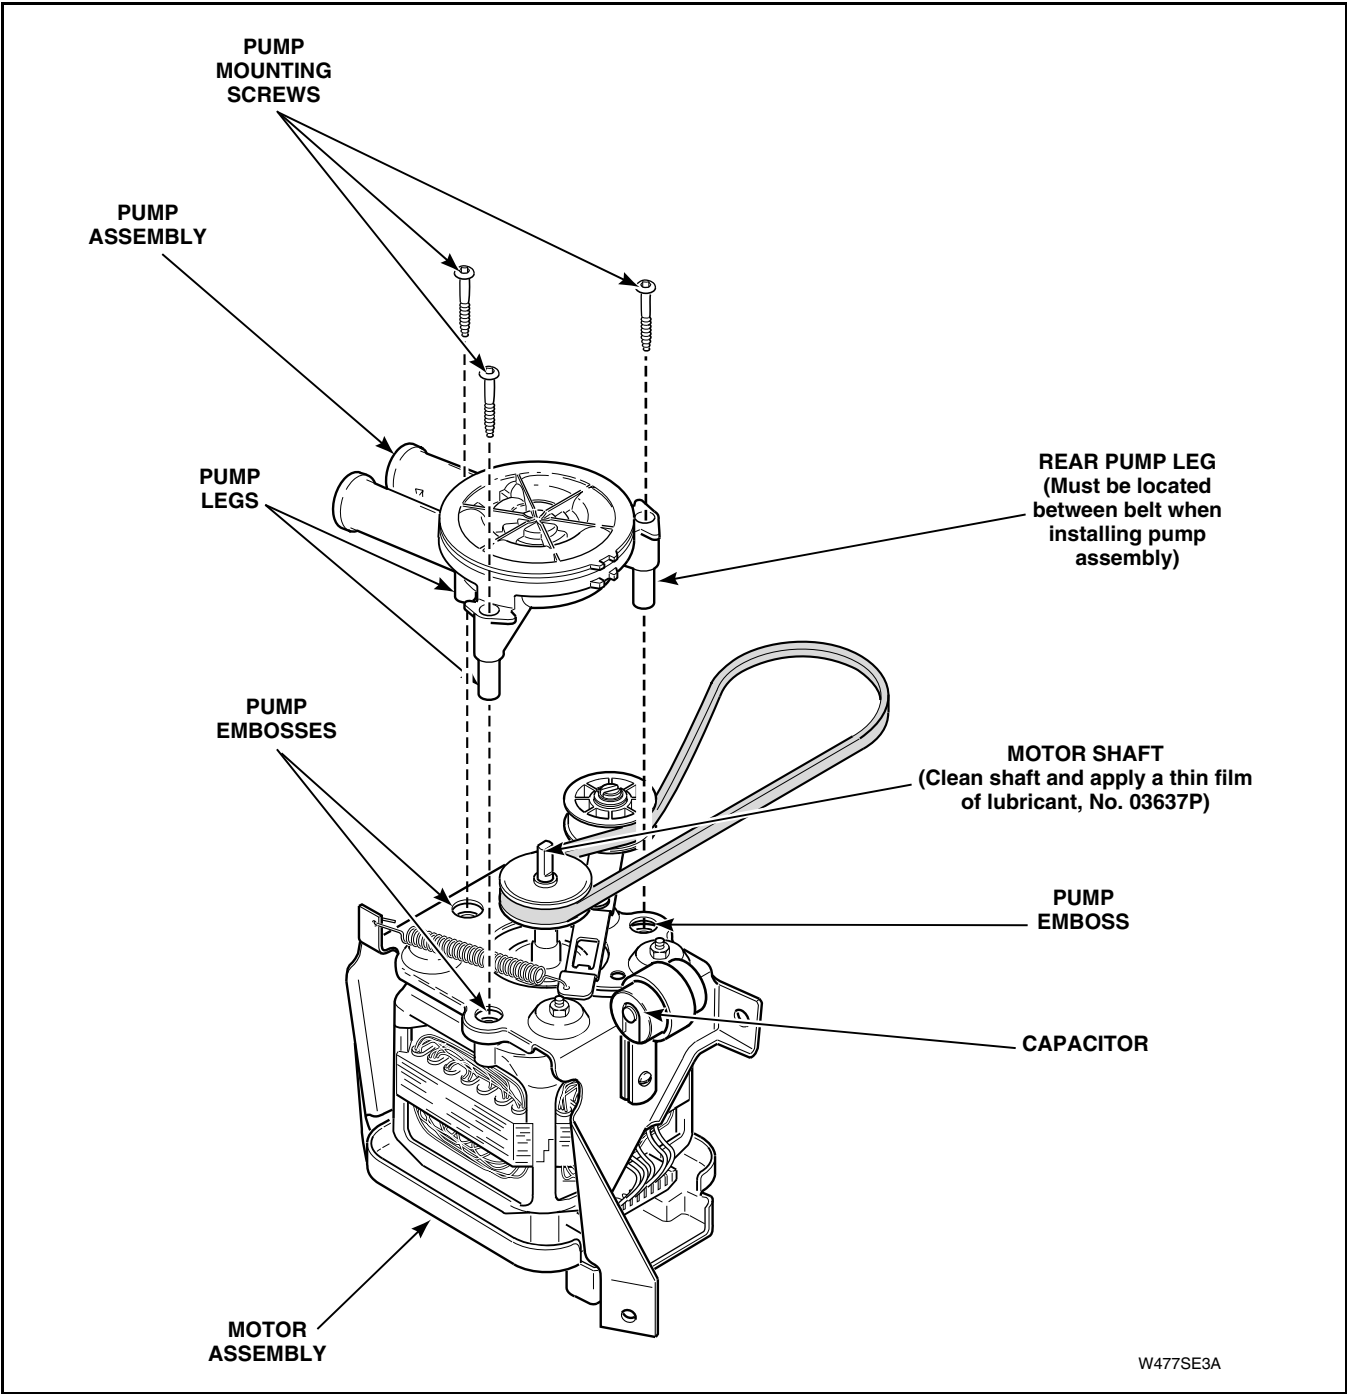

Figure 41
IMPORTANT: Carefully lay motor on its side. Observe belt configuration around rear pump leg. Belt **MUST** encircle rear pump leg when reassembling. Refer to *Figure 41*.
- Remove three screws holding pump assembly to motor. Refer to *Figure 41*.
- Align pump impeller hub with motor shaft. Make sure belt encircles rear pump leg, carefully push pump onto motor shaft so three pump legs bottom out in the embosses on motor housing before screws are tightened. Refer to *Figure 41*.